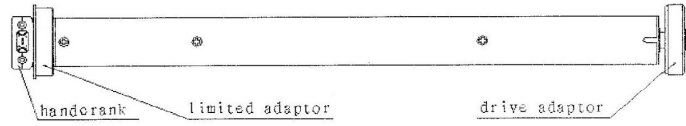

Fig. 2 Non-handcrank Version
4. Structure Scheme: (Fig. 1 and Fig. 2)